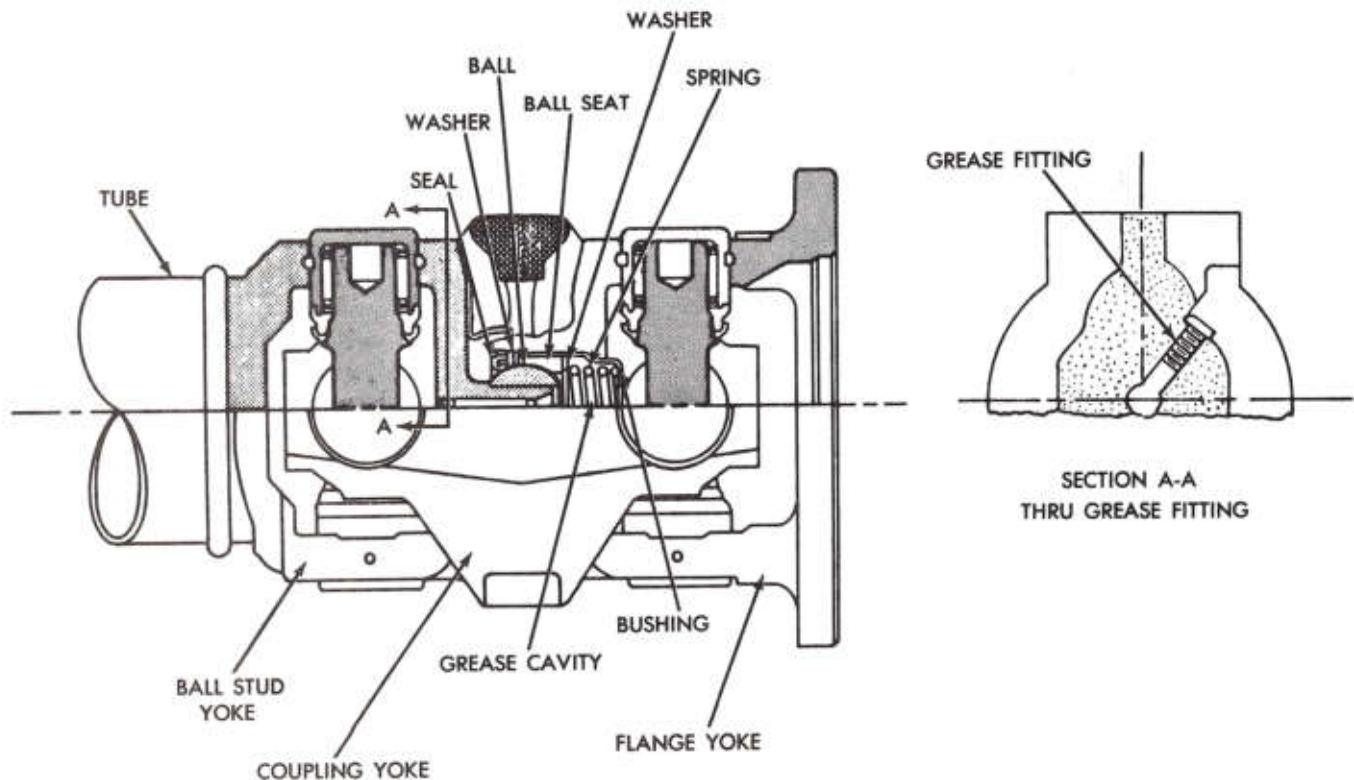

Fig. 12—Constant Velocity Universal Joint
CONSTANT VELOCITY (CV) UNIVERSAL JOINT (Fig. 12)